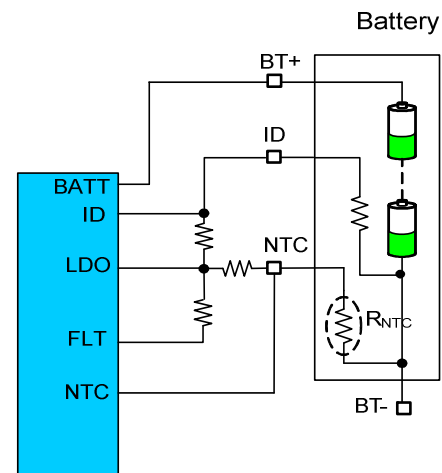
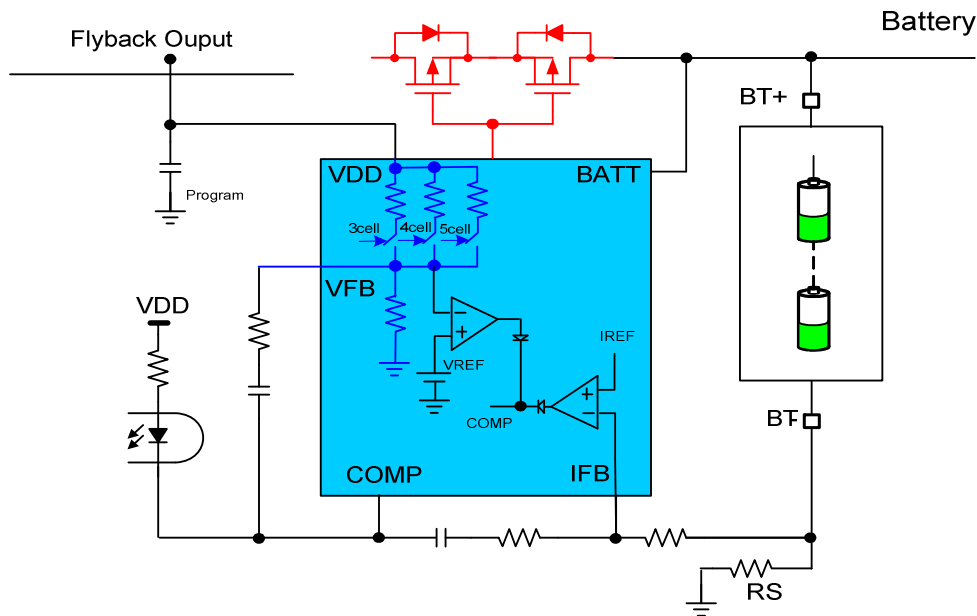

Figure 2. Battery-Pack Pin Connection
Figure 3. CC/CV Control Circuit of MP2681B
The MP2681B supports 3 different types of battery configurations: 3S, 4S, and 5S using a dedicated ID resistor pin. When a battery pack configuration is detected through the ID resistor, automatically the charge voltage is set internally; different battery pack implementations require different ID resistor values. The MP2681B ID is connected to the ID resistor in the battery pack and pulled up to LDO by a resistor (see Figure 2). Every battery configuration has a pre-set V_{ID} value. As such, the MP2681B compares V_{ID} to its internal reference to figure out the inserted battery configuration. As the battery changes among the six pre-set configurations, the MP2681B detects such conditions, and it modifies automatically the resistor divider from VDD (see Figure 3). Charge current, as well as other charge parameters, change accordingly.
Figure 3 shows the CC and CV control circuit.
The current limitation (I_{CHG}) is performed by sensing the voltage across the sense resistor (RS) and comparing it to the charge-current reference (V_{IREF}). When the sense voltage on RS is higher than V_{IREF} , the output of the current-limitation loop operational amplifier decreases. The opto-coupler current increases and tends to reduce the output voltage by the way of the PWM controller (see Figure 3).